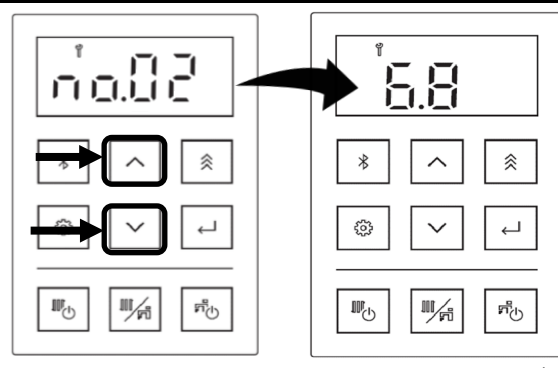

Fig. 2. "Up" and "Down" Buttons
- Use the (Up) and (Down) buttons (Fig. 2) to scroll to the desired information described in Table 1(A), Performance Data.